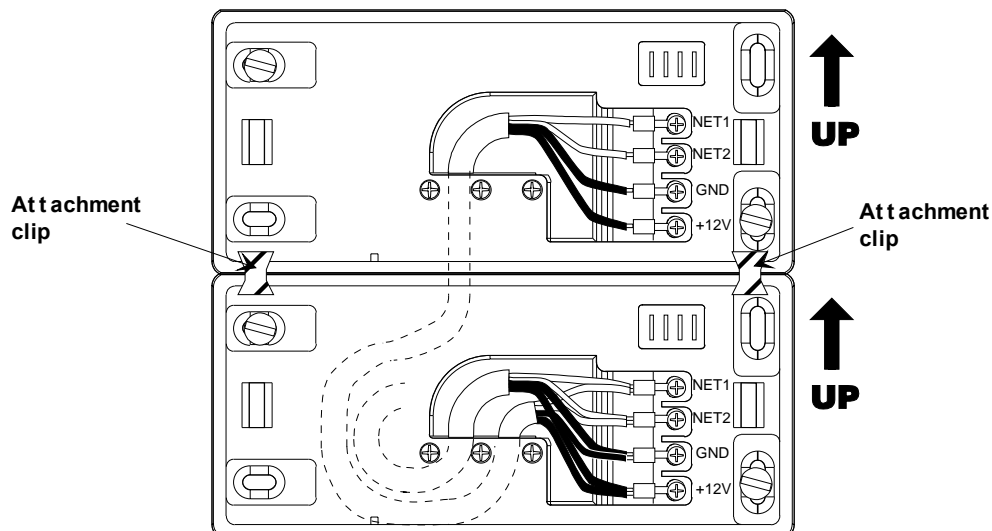
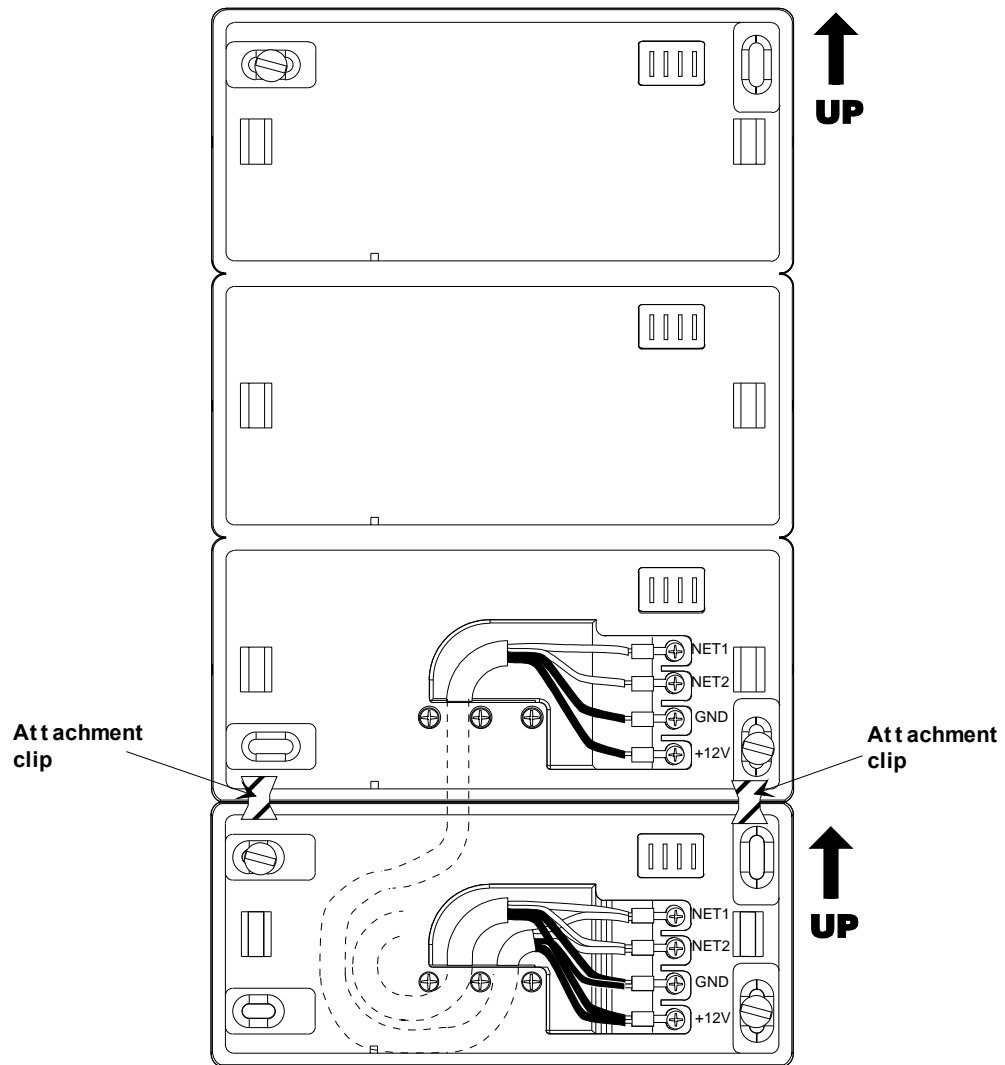

Figure 6. Combined Assembly of Two Single-Module Wall Units
Figure 7. Combined Assembly of Single- and Triple-Module Wall Units
3. Link the frames together by inserting the two enclosed attachment clips at the rear of the frames (Figure 6 and Figure 7).
7. Fasten the cable crimp to the contacts in the direction shown in Figure 6 and Figure 7.